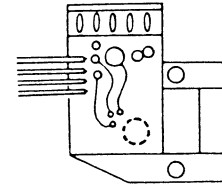

Fig. 2.10
- (1) When installing a new Laser Pickup Ass'y you must connect its three connectors (CN-101, CN-102 and CN-103) to the Servo P.C.B. Ass'y first.
- (2) Then using a grounded tip soldering iron only, remove the short-circuiting solder in the area of the dotted circle as shown in Fig. 2.10; this small P.C.B. which is incorporated with the Laser Pickup Ass'y.
**NOTE:** THE LASER PICKUP ASS'Y STOCKED AS SPARE PART, MUST BE SHORTED TO DOTTED CIRCLE OF THE SMALL P.C.B. WHICH IS INCORPORATED WITH THE LASER PICKUP ASS'Y AS SHOWN IN Fig. 2.10.